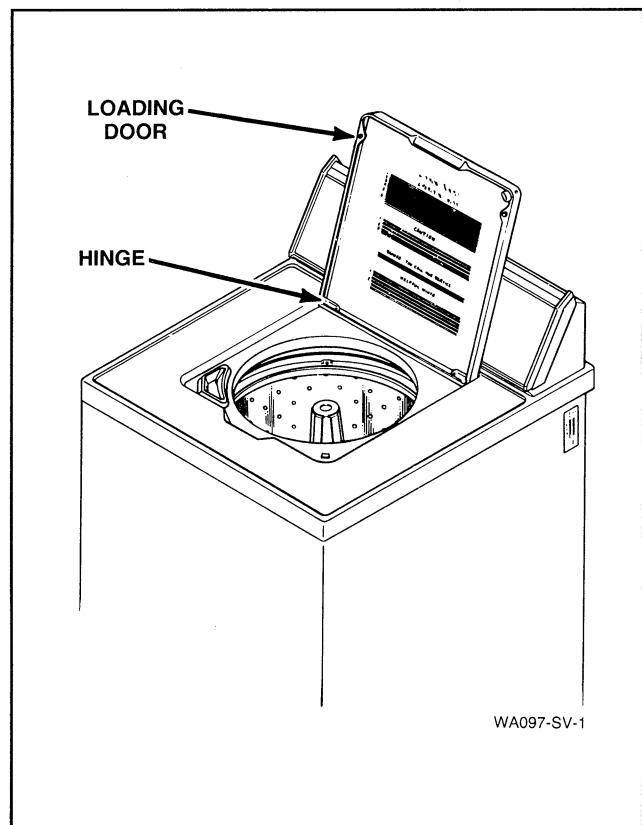

Figure 11
11. LOADING DOOR (Refer to Figure 11)